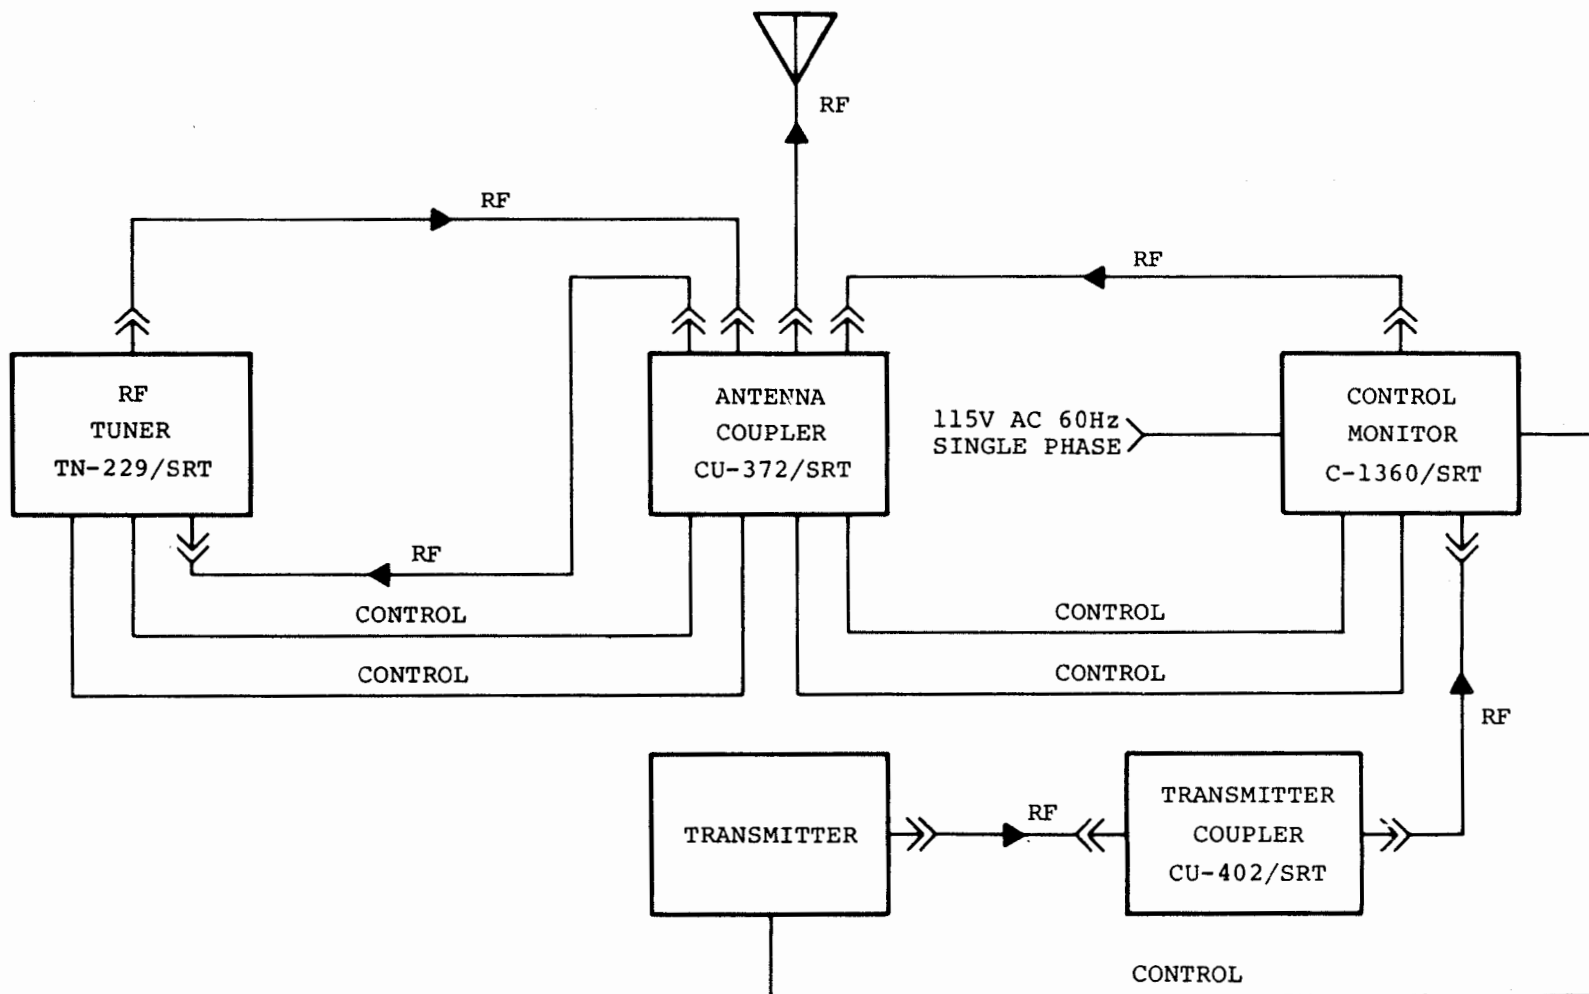

Figure 6-14 Antenna Tuning Group AN/SRA-18 Interconnection Diagram
c. INTERCONNECTION DIAGRAM. - See Figure 6-14.